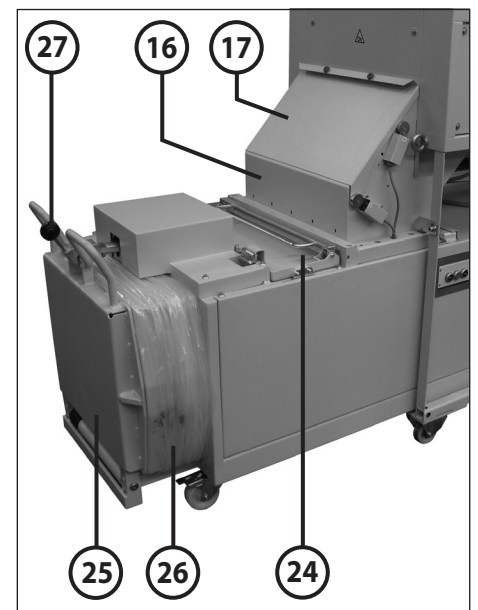

fig. 7
If the key is pressed and held (for at least 2 seconds), the baling ram travels a short distance in reverse and the locking lever (27) (fig. 7) is advanced a short distance (pressure relief at the discharge flap). The discharge flap (25) can now be opened. This is necessary when the baler is holding the bale in the compacted condition.